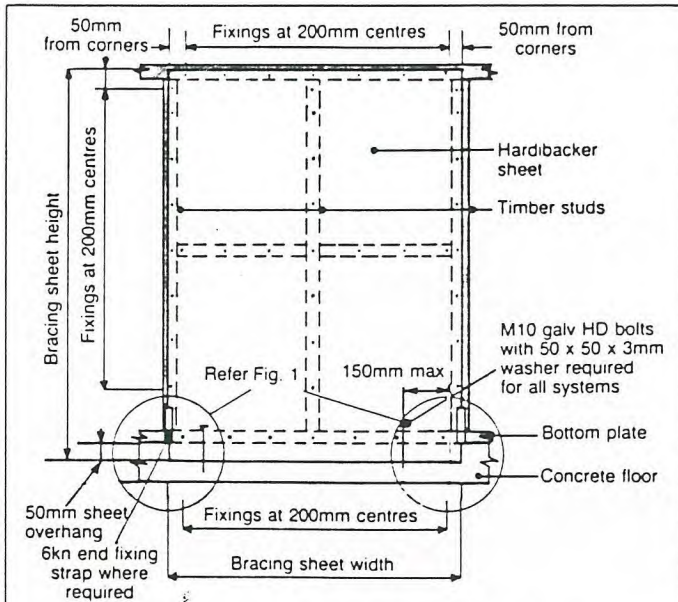

Fig. 3. Hardibacker to Concrete Slab with and without Straps
1. All fixings centres to be similar to Fig. 3.